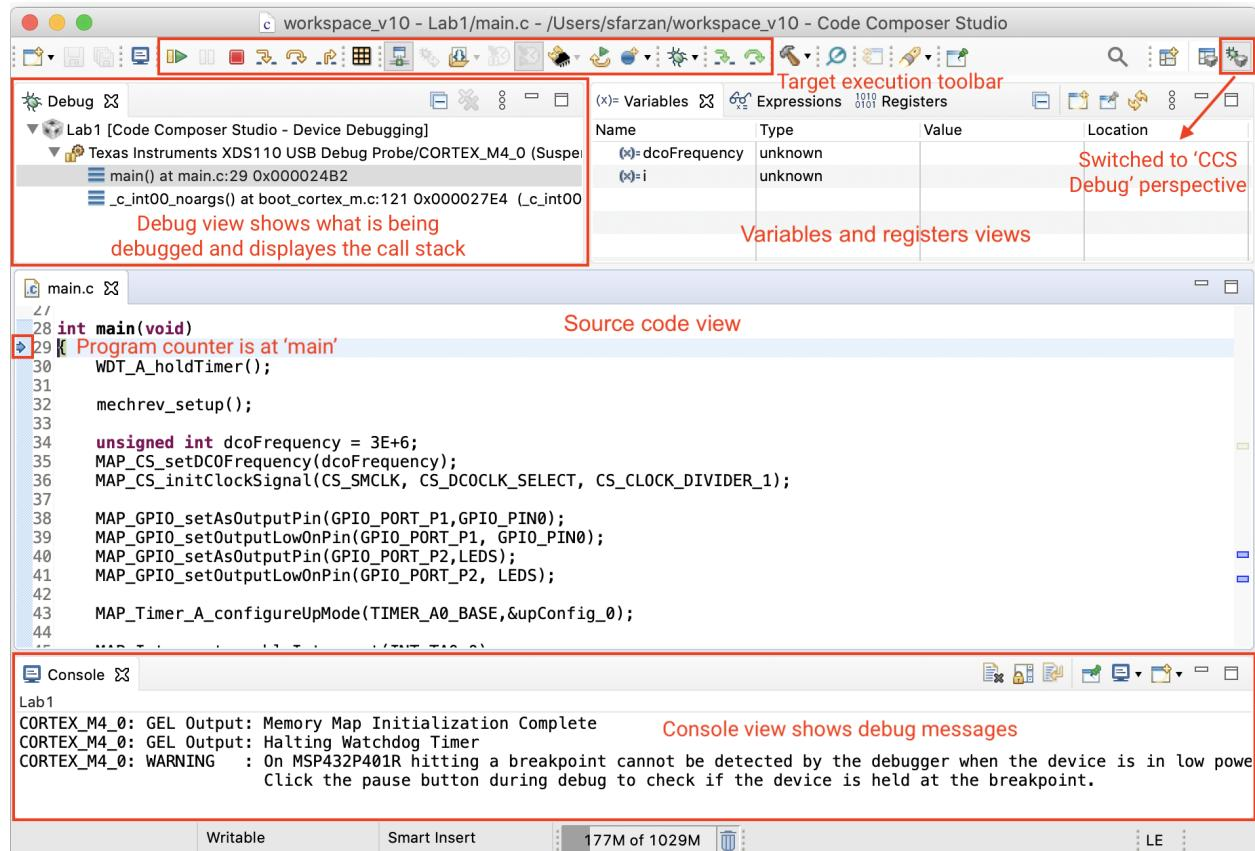

Figure 12: Debug mode perspective and the associated windows/toolbars.
- The perspective of the CCS will change. The CCS is now in Debug mode (Figure 12). Additional buttons are now available in the Quick Access panel as the Target Execution toolbar.